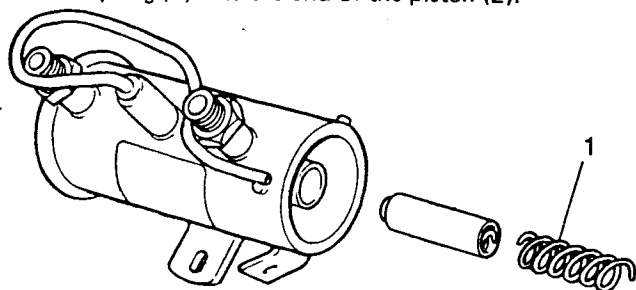

Fig C5.17
- (2) Refer to Fig C5.17. Fit the return spring (1) over the piston and insert the complete assembly into the pump body, rebound spring last.